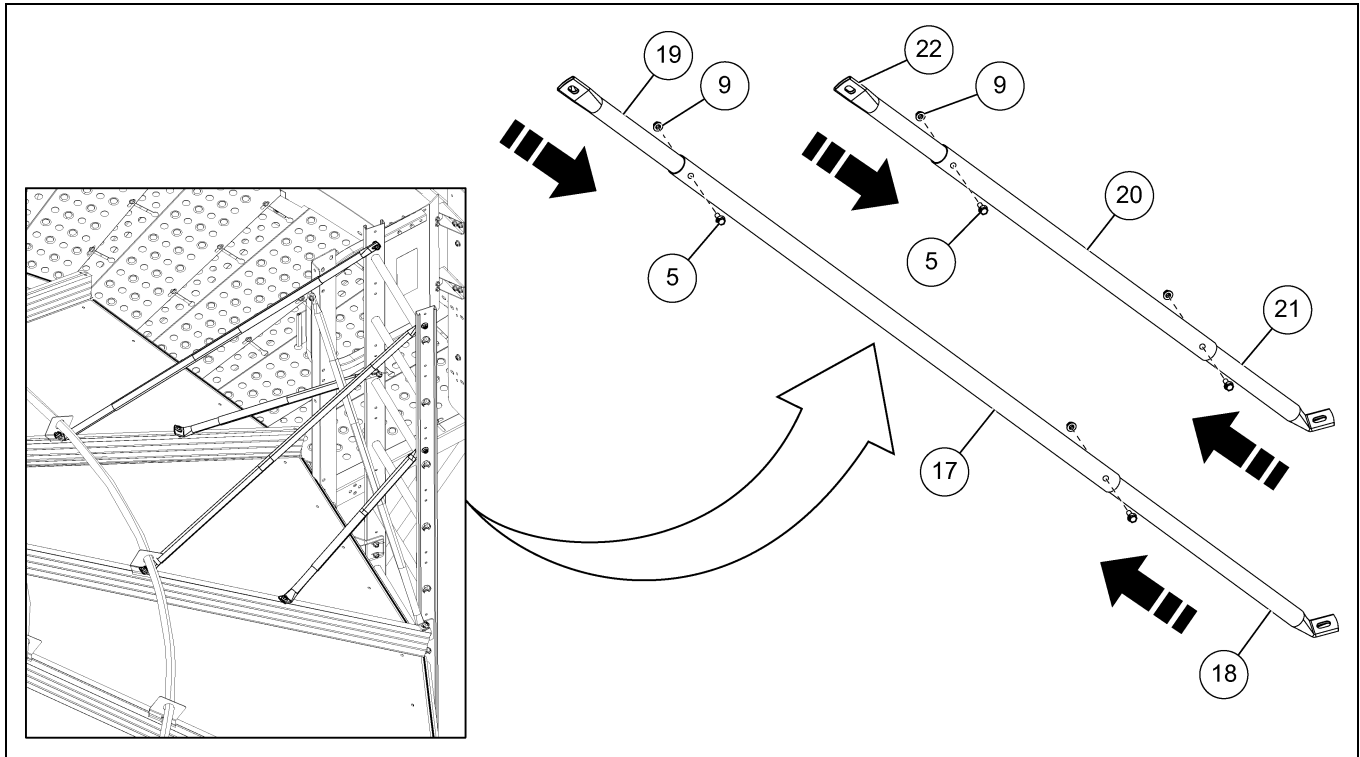

Figure 7E Securing the Ladder Braces
- a. Make sure to slide and adjust the smaller tubes (19 and 22) in both the ladder brace so that the bottom flattened end of the smaller tubes (18 and 21) reaches the roof panel (36).
- b. Use 5/16" x 1" flange bolts (4) and 5/16" flange nuts (8) to install the smaller tubes (18 and 21) to the roof panel (36).
- c. Use 5/16" x 1" flange bolts (4) and 5/16" flange nuts (8) to install the smaller tubes (19 and 22) to the ladder extension rail (31).
- d. Make sure to field drill four 5/16" holes per brace through both large and smaller tubes and bolt together using 1/4" x 1-1/2" bolts (5) and 1/4" nuts (9) to prevent the braces from slipping. (See Figure 7E on Page 73.)